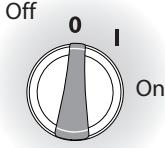

Fig. 14
- Make sure the “ON/OFF” knob is in the “OFF” position. The power switch has international symbols for ‘on’ and ‘off’: On (--) Off (O). (Fig. 14)
- Turn the dial to ‘ON’ (Fig. 14) The motor and pump should now be running and providing a powerful spray.